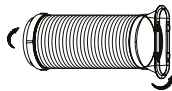

Fig. 4-2
1. Before using install the adapter on hose for air outlet (Fig. 4-2)